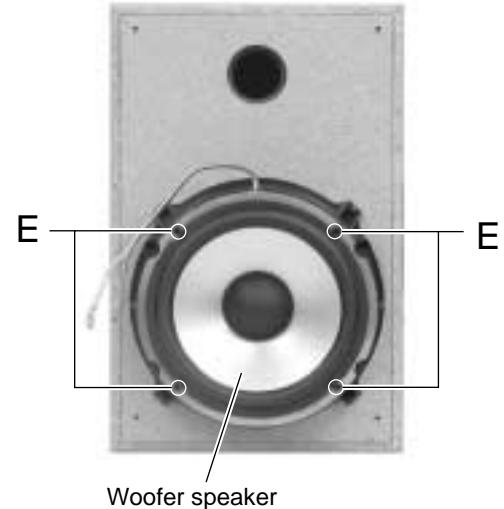

Fig.5
■Removing the woofer speaker (See Fig.5)